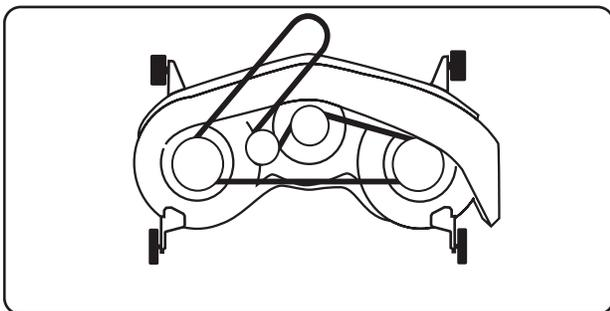

Figure 8.21
- For a 46" "H" deck, See Figure 8.21.